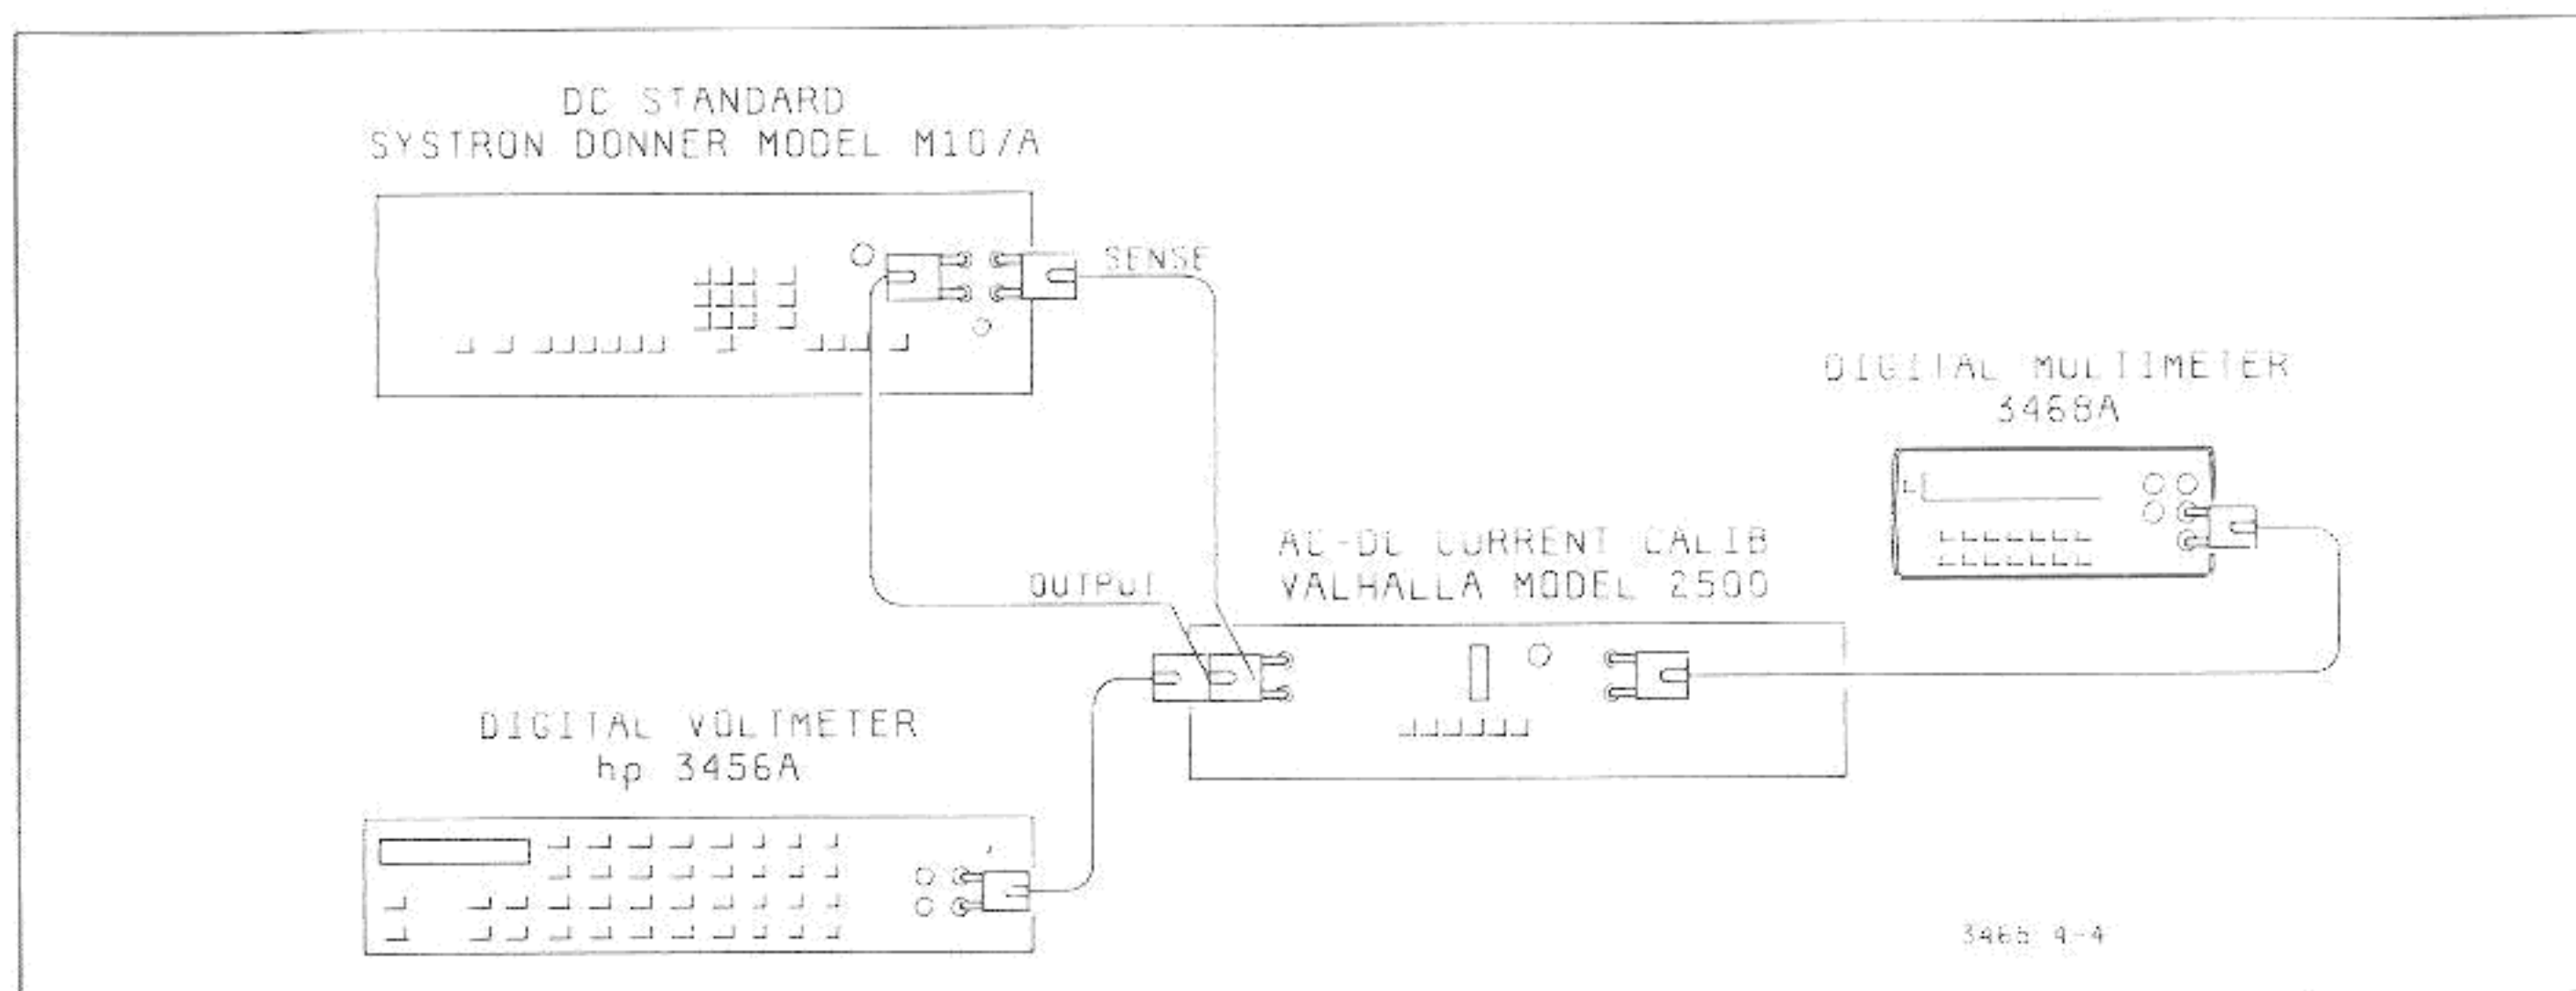

Figure 4-4. DC Current Accuracy Test
- h. Connect the DC Volts Standard and Digital Voltmeter to the AC-DC Current Calibrator as shown in Figure 4-4.